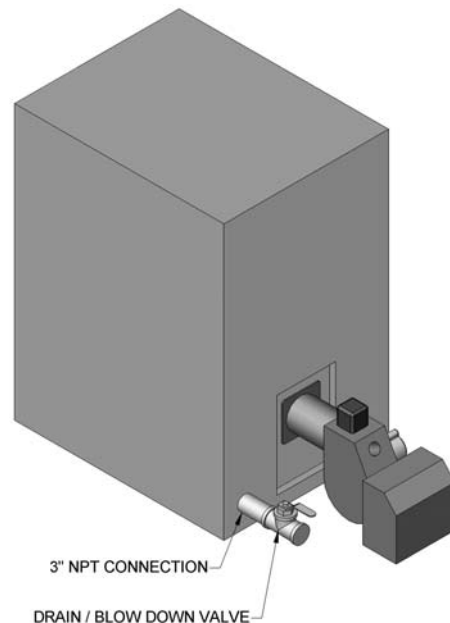

Figure 3.14: Boiler Drain/Blowdown Valve Installation
- a) Water Boilers: Install a drain valve either in the return piping or in the 3" NPT lower tapplings in the Front Section of the boiler. See Figure 3.14.
- b) Steam Boilers: Install a 1-1/4" NPT Full Port Blowdown Valve either in the return piping or in the 3" NPT connections in the Front Section of the boiler. See Figure 3.14.